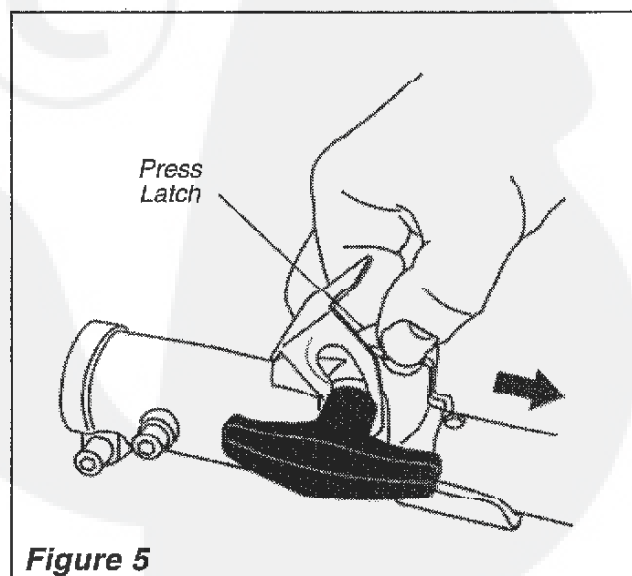

Figure 5
2. Press down on the latch with your finger or thumb. This releases the coupler lock. See Figure 5.